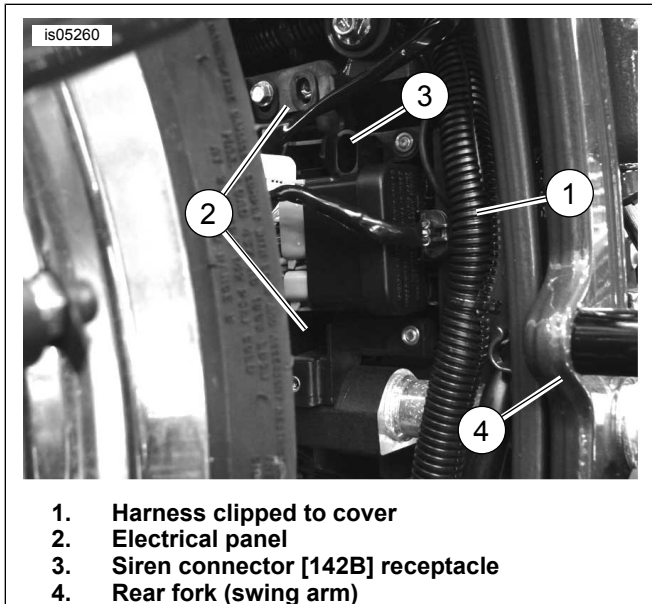

Figure 23. Electrical Panel (FXCW/C Models)
2. See Figure 23. Unfasten harness (1) clipped to right side of electrical compartment cover (splash guard, already removed in photo) just forward of the rear wheel. Remove two hex socket head screws with washers fastening cover and remove cover from vehicle.
3. Remove the siren connector [142B] from receptacle (3) near top of electrical panel (2).